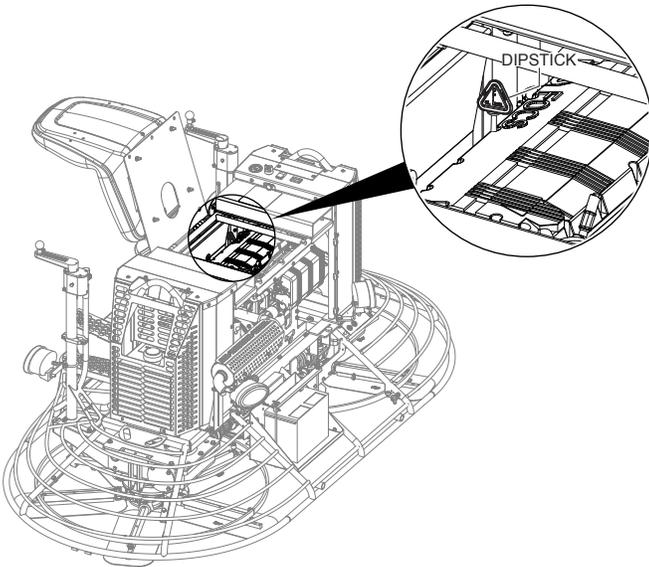

Figure 10. Dipstick Location
1. Pull the engine oil dipstick from its holder (Figure 10).